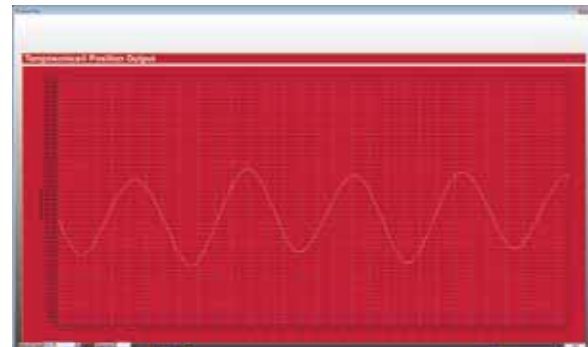

Fig. 31: Graphical display of position values via Test Sensor
- 2 Via **Test Sensor** the position of the magnet is displayed graphically. (Fig. 31).
- 9 Via **UART Result Counter** you define a time interval for the function **Test Sensor** to send a position value Fig. 31 (graphical presentation of position values). Example: If you choose “50” in the field **UART Result Counter**, each 50. measurement will be displayed.